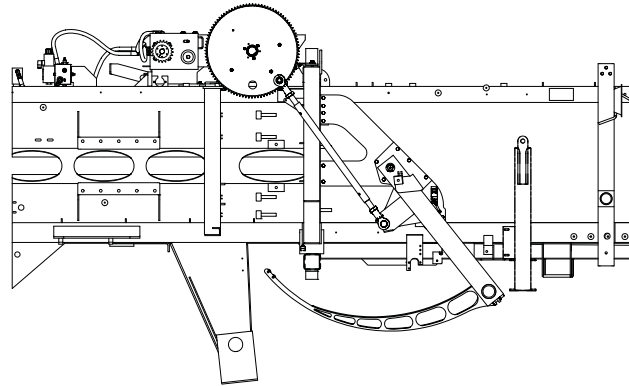

Figure 5-2. Twine Needle Yoke in Home Position
3. Press UP/DOWN arrow buttons to move needle yoke back in home position (see Figure 5-2).